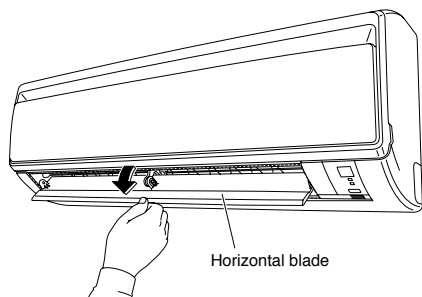

Fig. 4
- (1) Pull down horizontal blade by pulling forward. (Fig.4)